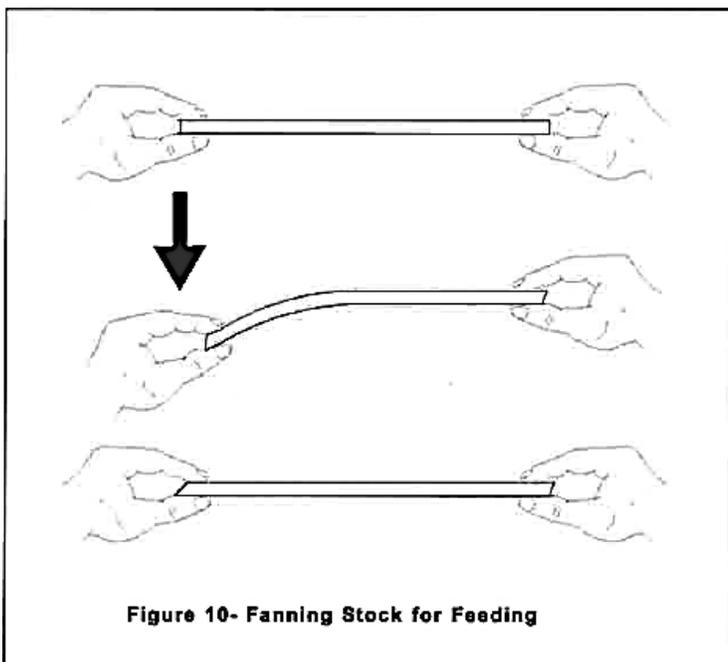

Figure 10- Fanning Stock for Feeding
1. Hold the paper as shown in Figure 10.